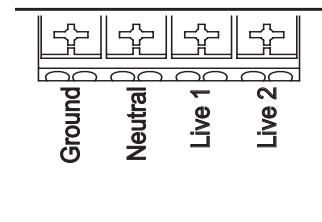

Figure 10: Power terminals
- See Figure 10. The power terminals block has four spring-loaded terminals labelled **Ground**, **Neutral**, **Live 1** and **Live 2**. Connect the power cable as follows: